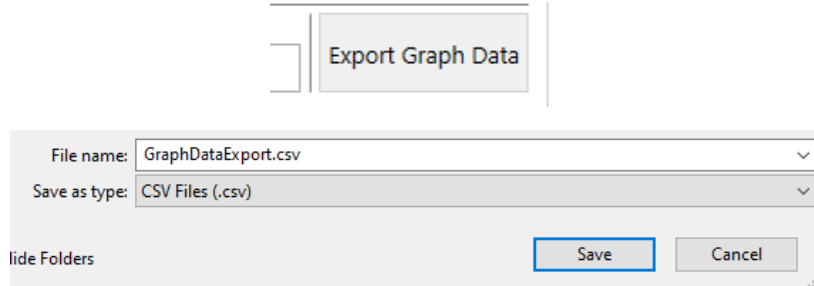

Figure 163. Save Screen Displayed Data
4. Click on the 'Export Graph Data' button (see Figure 163).